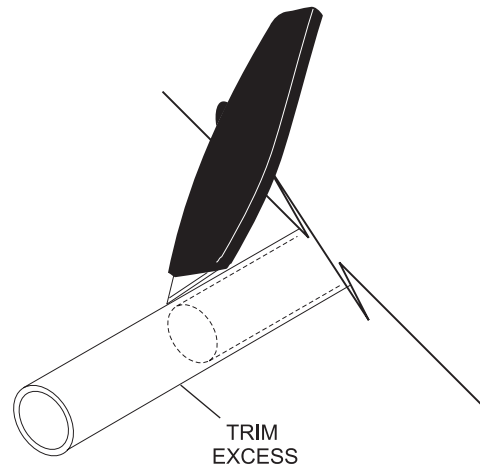

Figure 4
9. Trim excess plastic tube from ball rod. Refer to *Figure 4*.